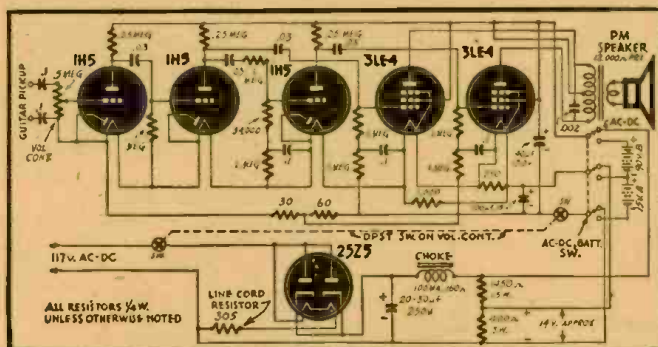

Fig. 3, above—Guitar amplifier. Fig. 4, below—5-tube receiver.
A. The diagram (See Fig. 3) shown is for a guitar amplifier drawn up along the lines you specified. Tubes of the 1.4-volt types with higher wattage output are available and could have been used if it would not have been necessary to keep within the limits of the 25Z5. However, the layout as shown will give you about one watt output. This will usually be satisfactory.